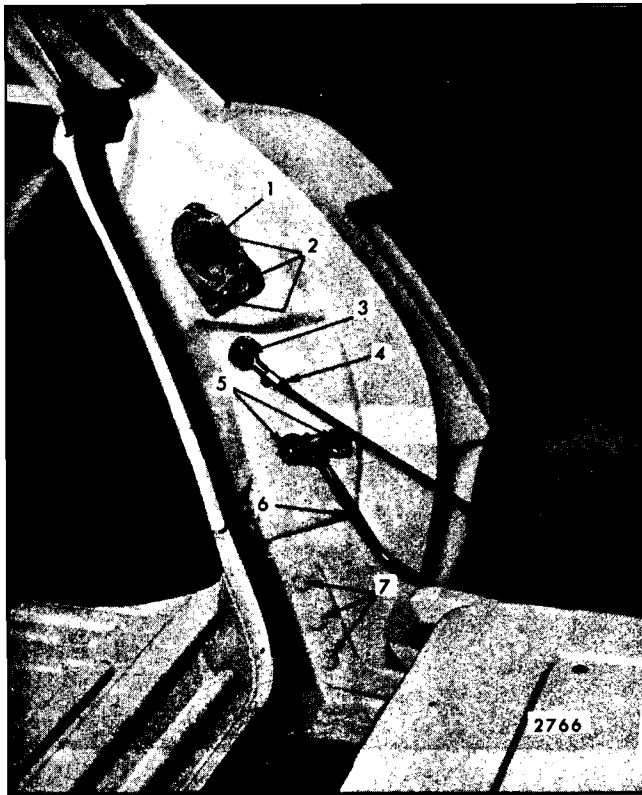

Fig. 9-50—Tail Gate Torque Rod, Hinge and Support Attachments
- Remove tail gate window assembly. With tail gate in an approximate vertical position, remove torque rod retainer (Fig. 9-50).